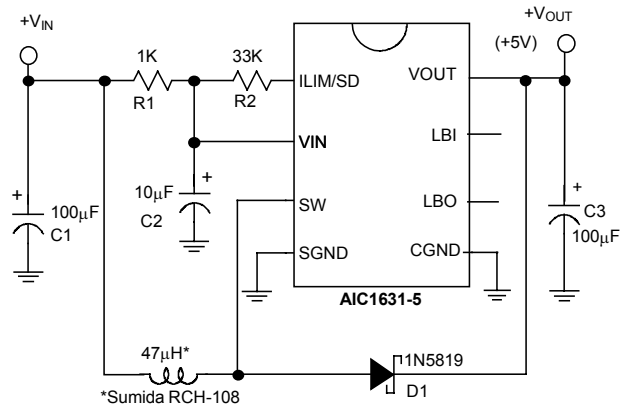
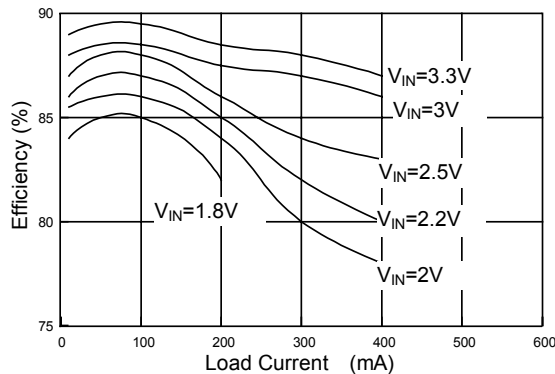

Fig. 1 A High-Efficiency 2-Cell to 5V Converter
Fig. 2 Conversion Efficiency for the 5V Converter
Conversion efficiency is the main consideration for those devices which consume above 2mA most of the time. Fig. 1 shows a high efficiency converter circuit suitable for producing 5V output from two battery cells. The components shown in Fig. 1 are easily obtained low cost common parts. If high-quality parts (such as MMP core inductors) are used, efficiencies of 90% and above can be reached. However, if good output power quality is desired, such as in Fig. 2 or better, at least two points need to be observed:
(2) If the output voltage requires the AIC1631, one could add a few external components to make an oscillator to generate control signals for the AIC1631 to perform intermittent operations. This is called “Burst Mode Operation”, and is shown in Fig. 4(a). If CTL shown in Fig. 4(a) is connected to V_{IN} or V_{OUT} , the circuit will function normally with the characteristics similar to the circuit in Fig.1. If CTL is connected to GND, the circuit will enter Burst Mode with an output voltage of 4V, and the circuit itself consumes very low power, as shown in Fig. 4(b). To change the output voltage in the burst mode, simply change the divider ratio of R_3 and R_4 in Fig. 4(a). Note that the voltage of normal operation will never be exceeded.
(3) To get the most out of the batteries' energy, the DC/DC converter must be able to work at low battery voltage. The circuit shown in Fig. 5 still deliver 30mA at 5V with input voltage at 1.6V. The conversion efficiency, however, is somewhat lower than circuit in Fig. 1.
With a correct PCB layout, the output voltage noise of the circuit, shown in Fig. 1 should be below 20mV (Peak to Peak). Under most circumstances, the noise cannot even be seen. However, sometimes one can see ringing of about